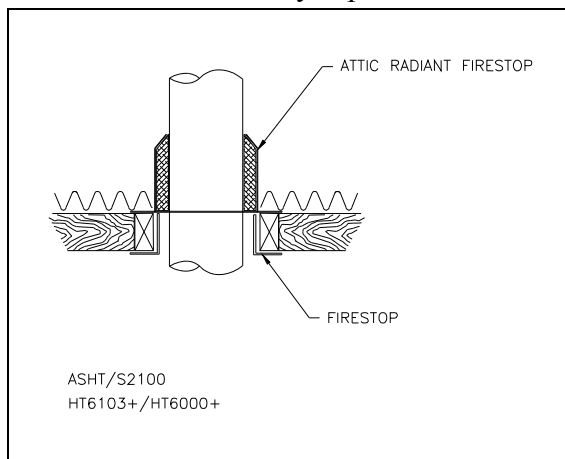
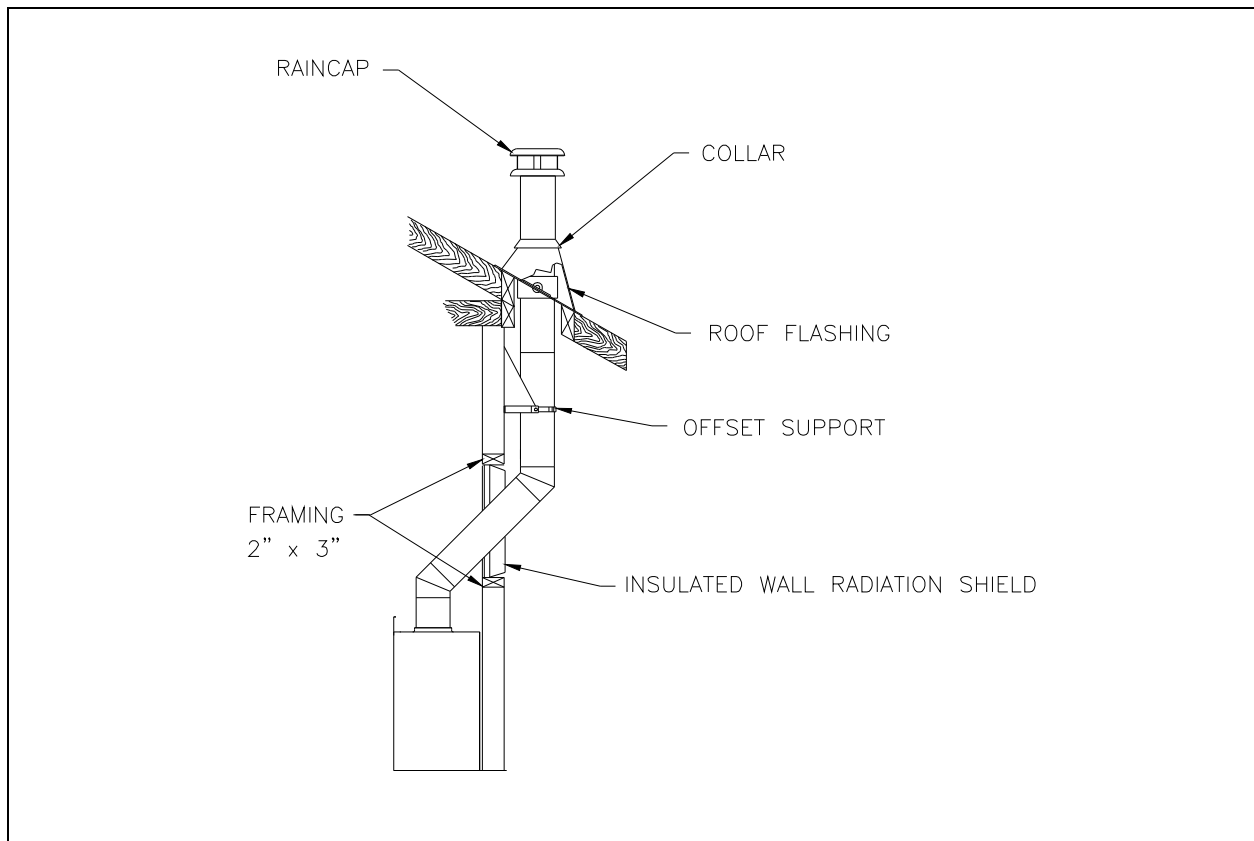

Figure 23
Figure 29
2. From below, install a fire stop in each ceiling/floor separation through which the chimney will pass. At the attic level, install an attic radiation shield from above. (Figures 23 & 24).
1. Install the first elbow; turn it in the required direction. Fasten it to the chimney with the three (3) ½" (12 mm) metal screws provided with the elbow.
2. Install the necessary chimney lengths to achieve the required offset. Lock the chimney lengths together: it is recommended to use three (3) ½" (12 mm) screws. If the offset length is made of two (2) chimney lengths or more, use an offset support halfway up the offset. If penetrating a wall, install a wall radiation shield (see figures 29 & 30).
3. Use another elbow to turn the chimney vertically. Secure the elbow, using three (3) ½" (12 mm) screws (provided with the elbow).
5. From below, install a fire stop (See figure 23).